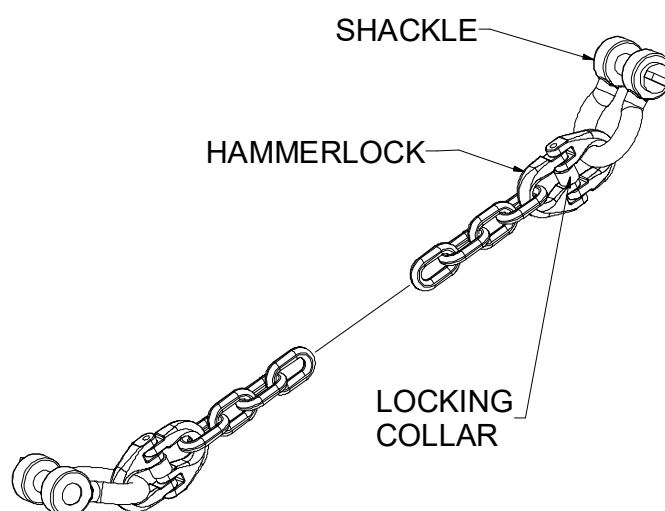

Figure 3.3.1: Safety chain showing chain and shackle attached to hammerlocks.
- Attach the first hammerlock and one shackle to one end of the chain as shown in Figure 3.3.1,
- Fit the second hammerlock to the free end of the chain ensuring that the shackle is threaded through the end of the hammerlock before locking the hammerlock pin in place in the same way as shown in Figure 3.3.1, and